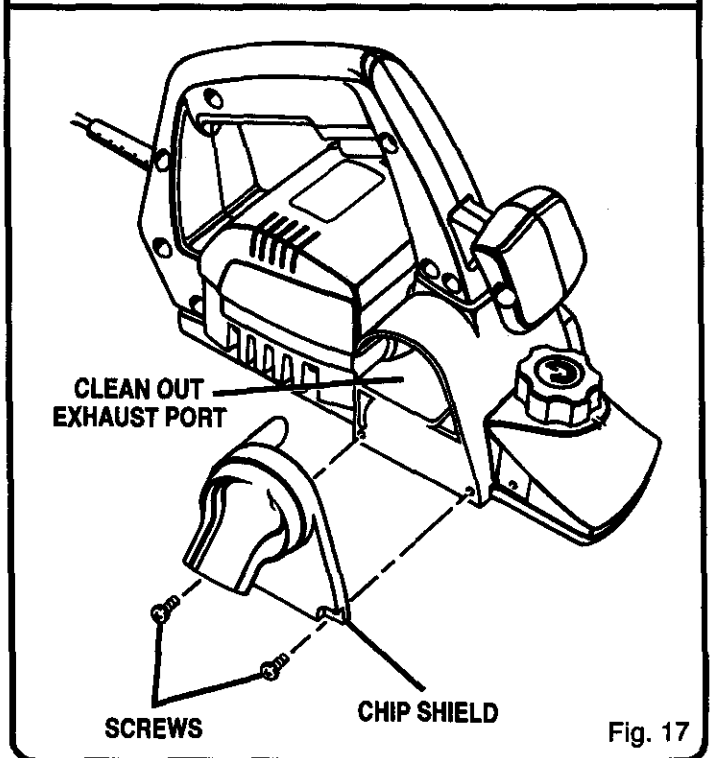

Fig. 17
2. Remove the two chip shield screws and chip shield. See Figure 17.